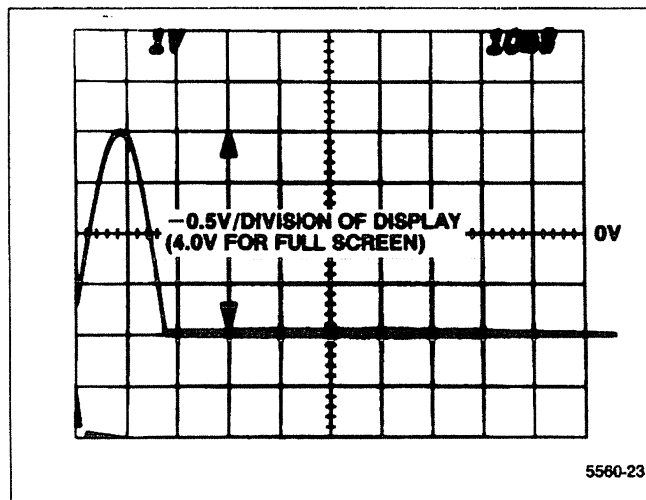

Figure 4-23. Test oscilloscope display of VERT output with a full screen display on the Spectrum Analyzer.
e. Check that the amplitude of the VERT OUTPUT signal is 4 V peak-to-peak $\pm$ 0.2 V centered around 0 Vdc as displayed on the test oscilloscope. See Figure 4-23.